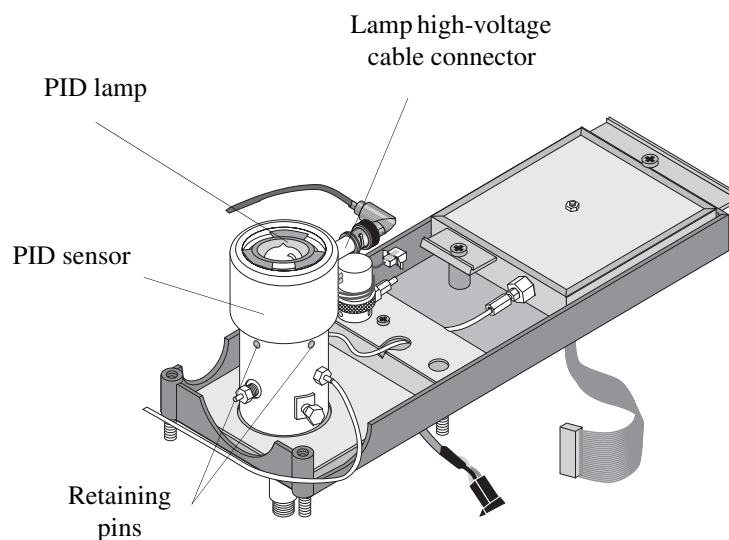

Figure 5.1. PID sensor assembly
2. Disconnect the lamp high-voltage cable from the PID sensor (Figure 5.1).